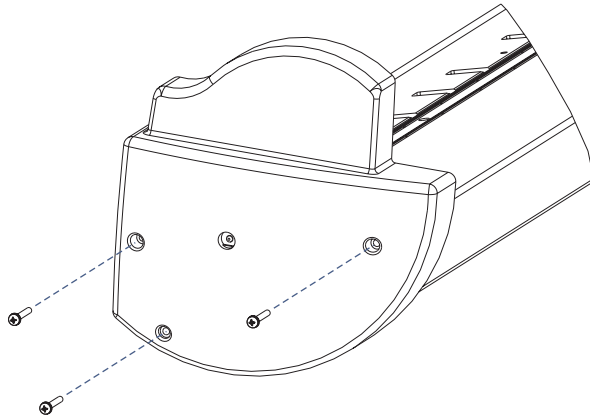

Figure 5-4. Removal of the Left Cover.
2. While holding the Left Cover, remove the three screws securing the Left Cover. The three screws are removed from the the left side of the cover as shown on Figure 5-4.
1. While holding the Left Cover, reinstall the three screws that secure the Left Cover. The four screws are reinserted as shown on Figure 5-4. All screws should be torqued to 15 in-lbs. **Do not overtighten.**